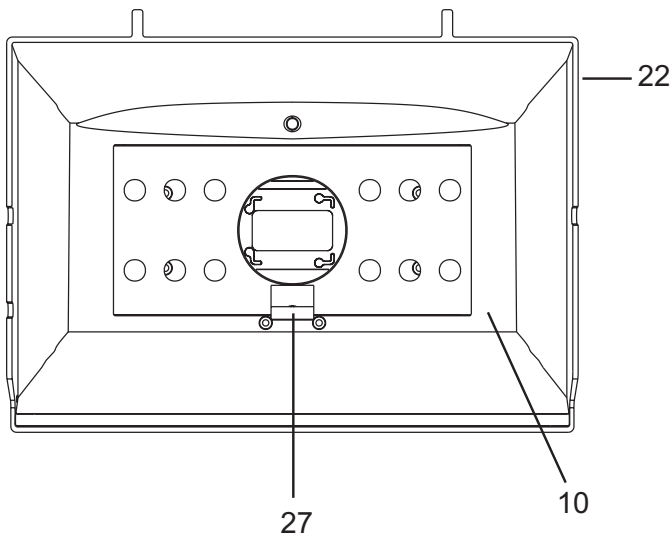

Figure 3
Place the radiation shield (10) in the grill bottom (22). Figure 3.